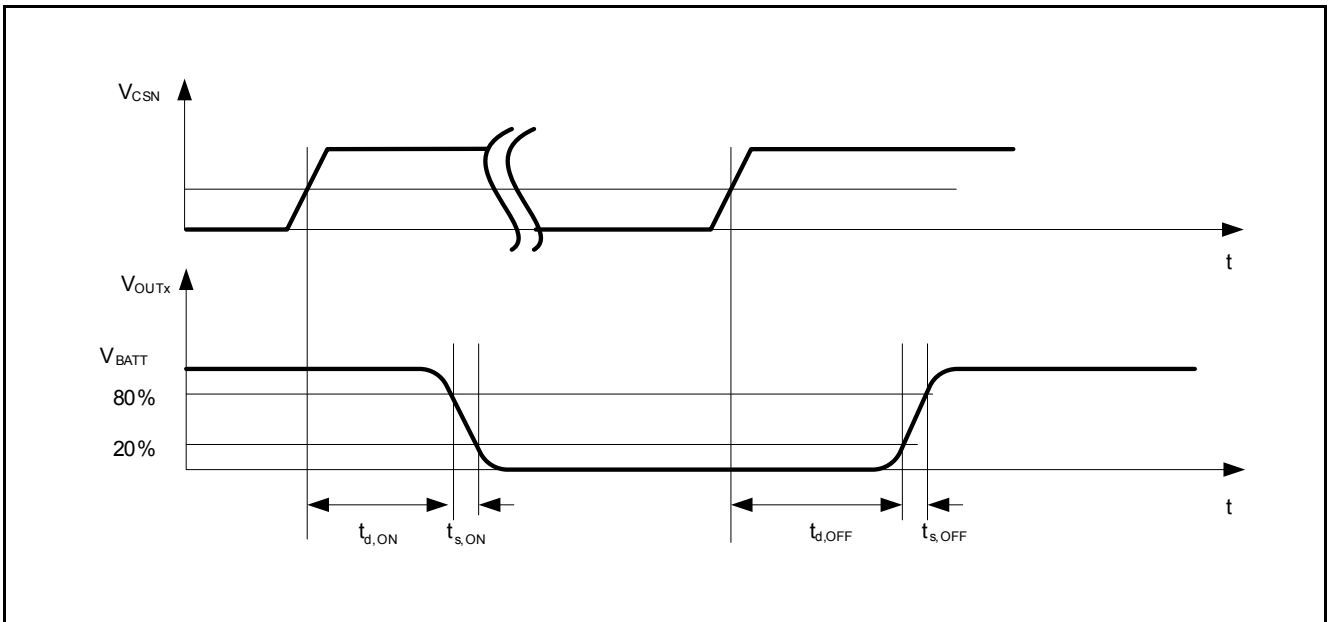

Figure 8 Timing Low Side Switches Channel 2, 4 and 5
- 1) definition of timing see Figure 7 or Figure 8.